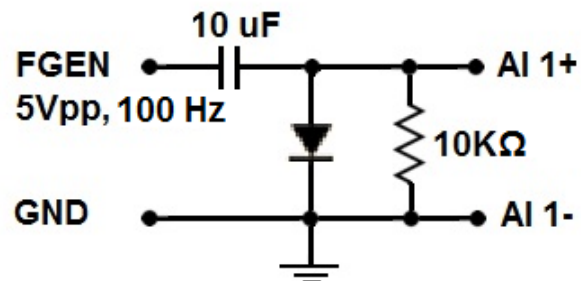

Figure 6.2: Clipping circuit.
1. Connect the circuits as shown in the figures 6.2